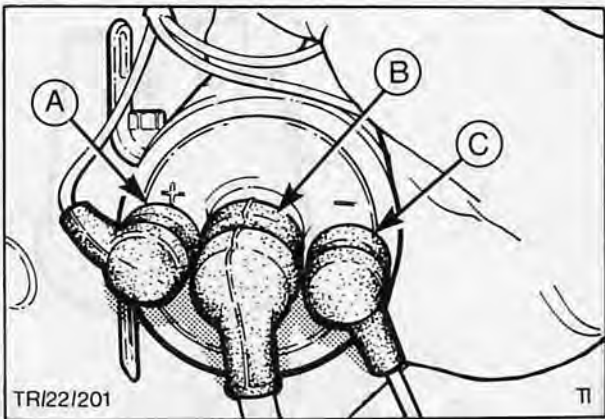

Fig. 2 Ignition coil
The coil has three terminals, Fig. 2, two low tension (LT) and one high tension (HT). The positive LT lead supplies the power source to the coil from the battery via the ignition switch. The negative LT lead connects the coil to the distributor.